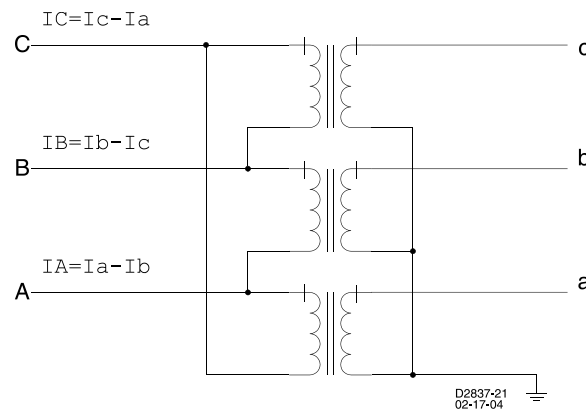
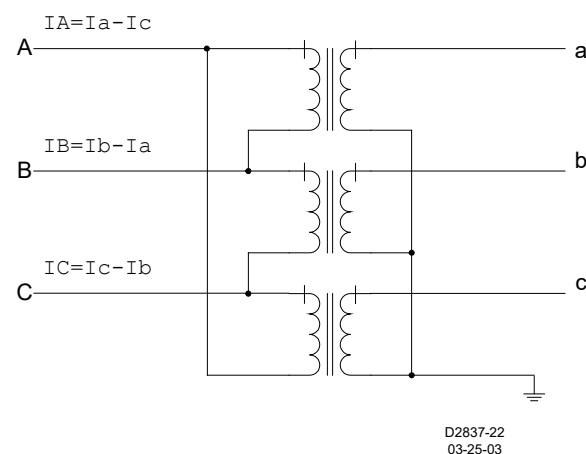

Figure 53-4. DAB Delta
Figure 53-5. DAC Delta
When the zone of protection includes a transformer, it may be necessary to provide phase angle and zero sequence compensation to the currents used by the Phase Current Differential Protection (87) element. See Figure 53-4 and Figure 53-5. For each input circuit, a setting is provided to enter the transformer connections associated with that input.
**Delta Transformer Windings.** The transformer connection for a CT input circuit that is connected to a delta winding could be classified as one of two delta connections: Delta IA-IB (DAB) or Delta IA-IC (DAC). A delta configuration is defined by the currents that flow in the primary phases connected to the delta. The wye winding phase connections are used as the point of reference since the current that flows in the wye winding is the same as the current in the wye side primary phases. Figure 53-4 shows an example of a transformer with a DAB connection. Figure 53-5 shows an example of the same transformer with the phases reconnected to provide a DAC connection. If there is no wye winding to use as reference, as is the case with a delta/delta transformer, the definition of the delta configuration is not important.